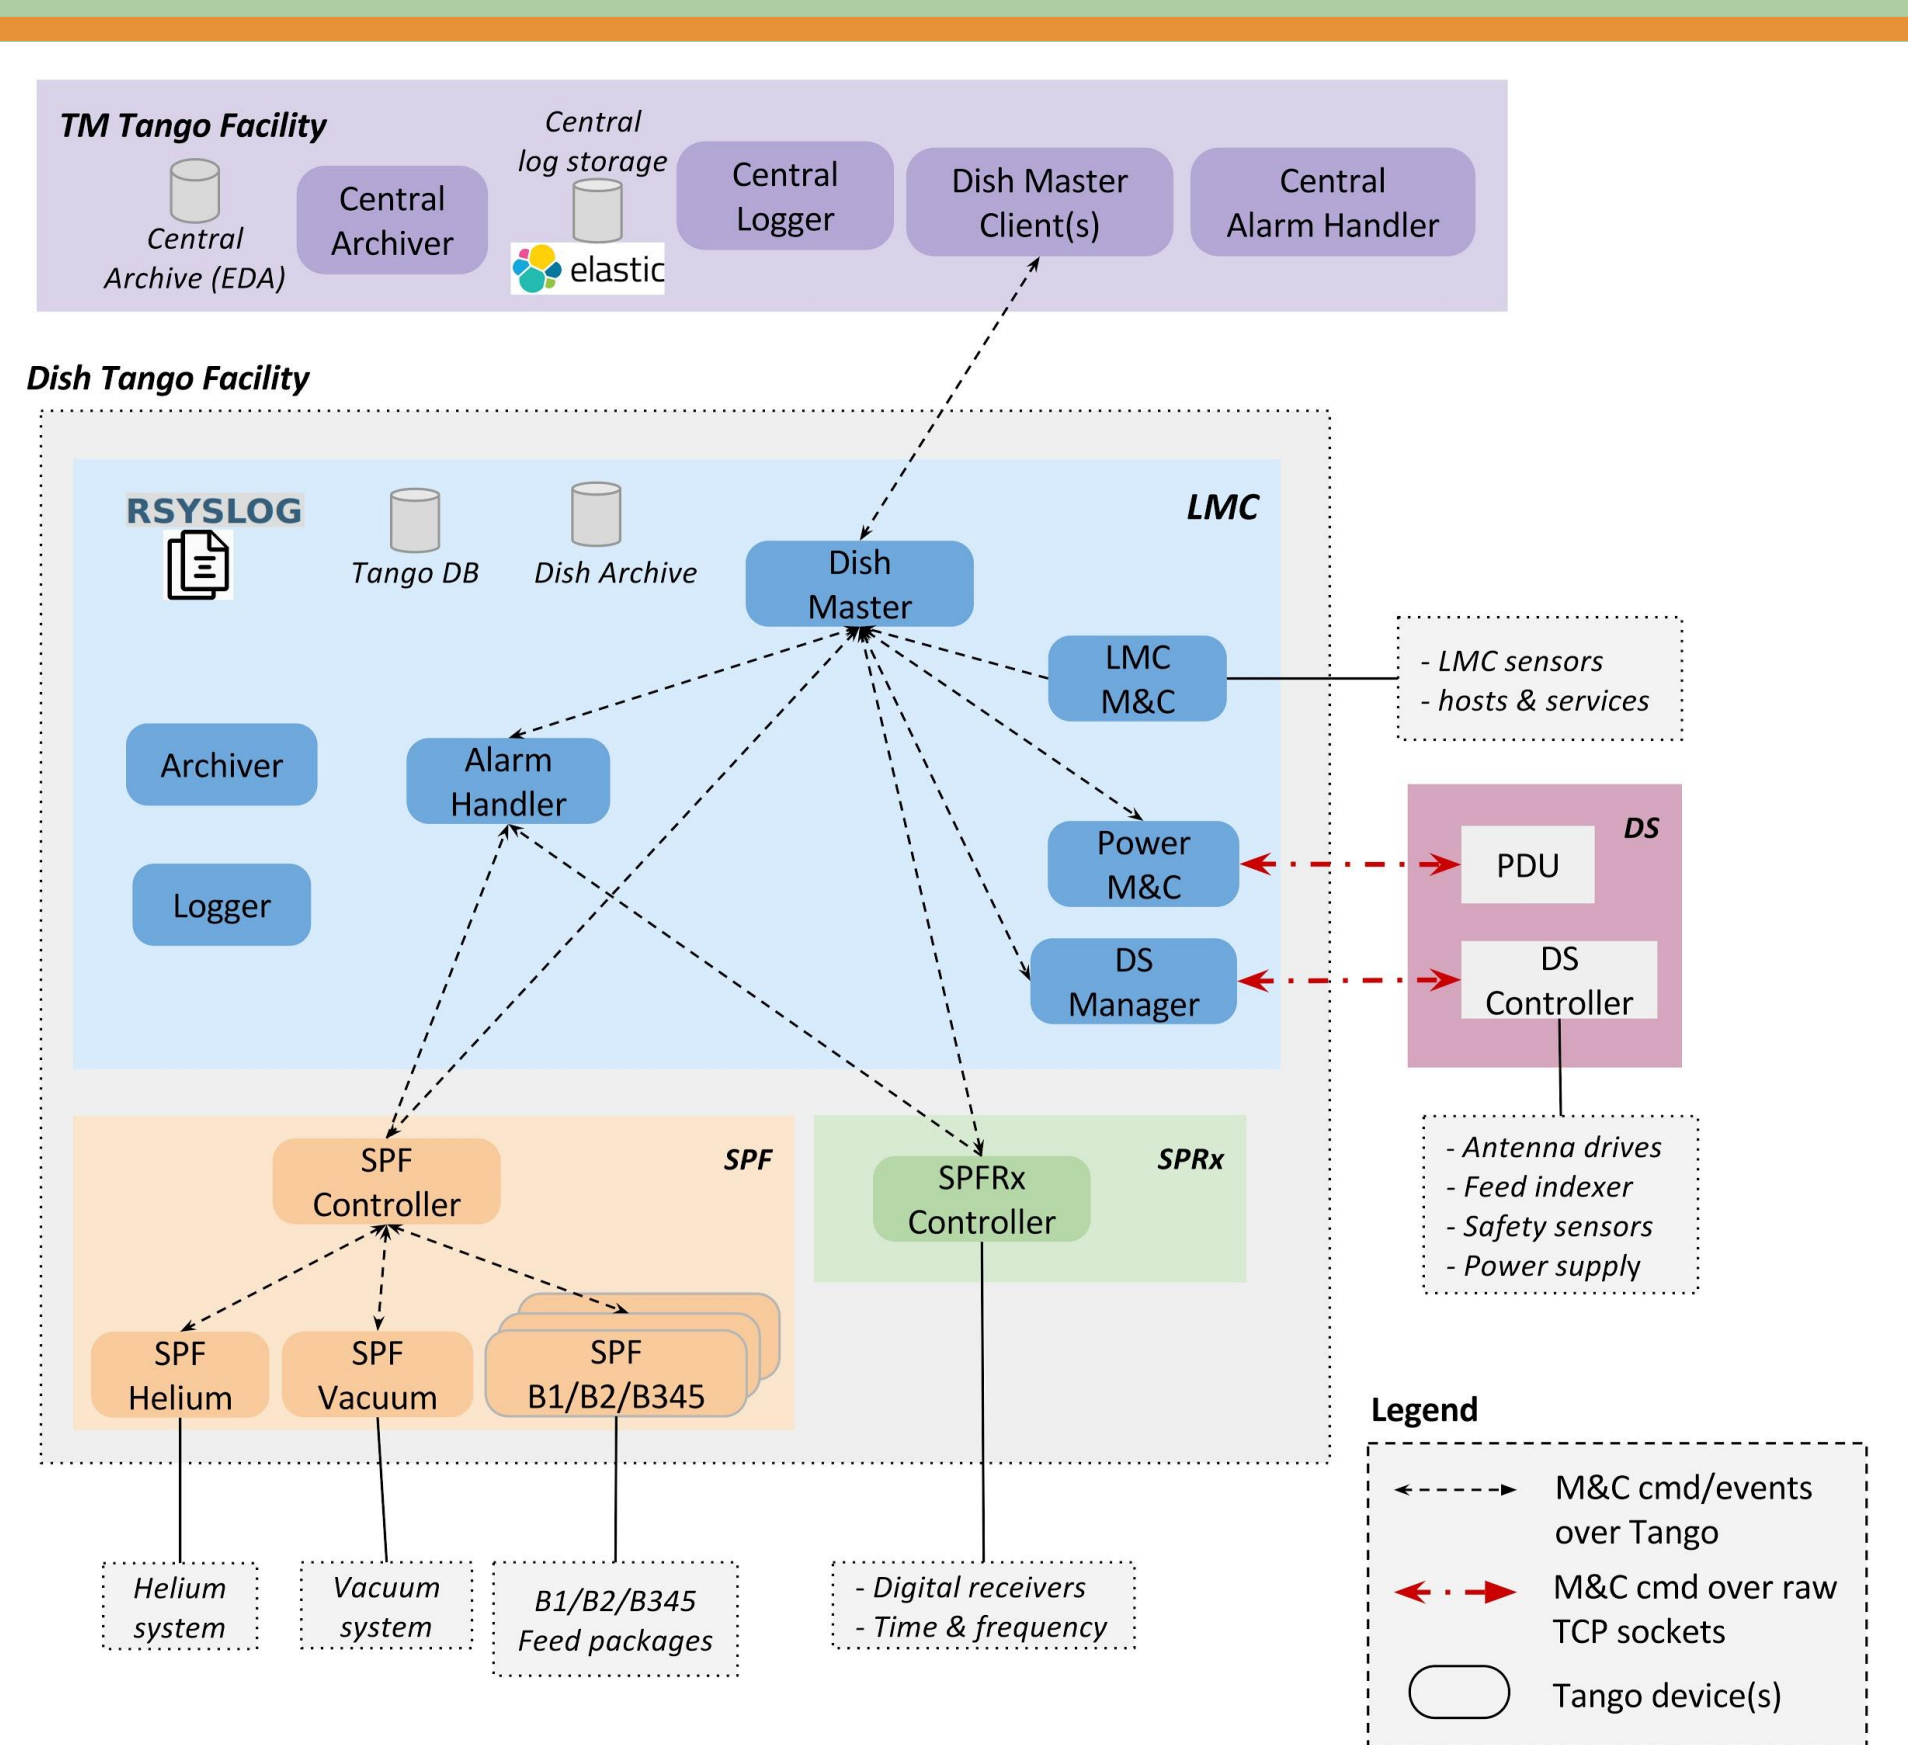

Fig. 5: Dish LMC high-level architecture
- ❖ **Dish LMC high-level architecture designed** (Fig. 5)